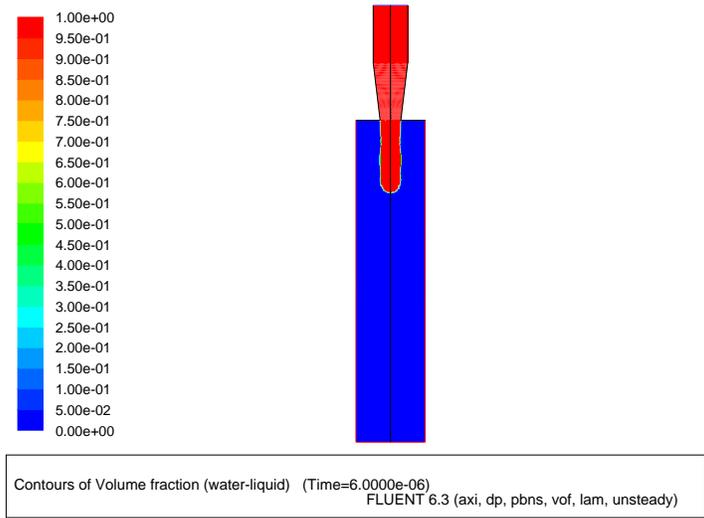

Figure 17.5: Contours of Water Volume Fraction After 6 μ s
2. Display filled contours of water volume fraction after 6 microseconds (Figure 17.5).